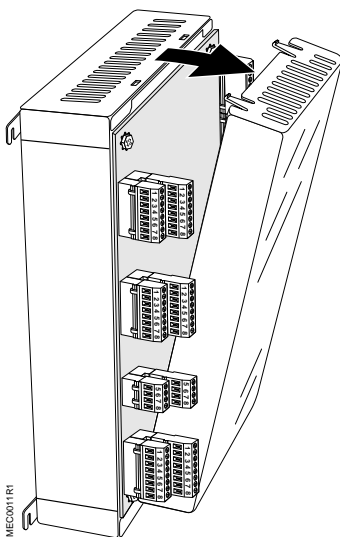

Figure 2. Removing the MEC Front Cover.
**NOTE:** The jumpers are shipped in the Voltage (V) position. The jumpers must remain in this position when they are not being used.
1. With an ESD wrist strap attached to your wrist and a good earth ground, remove the MEC front cover. See Figure 2.